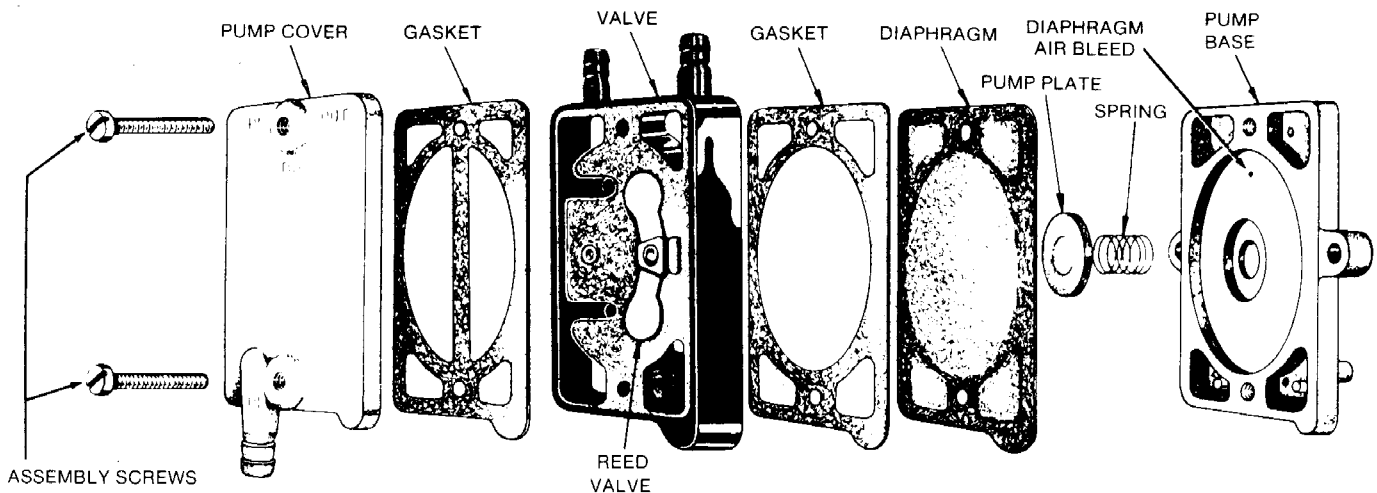

FIGURE 9. EXPLODED VIEW OF FUEL PUMP
3. Holding the pump carefully, remove the assembly screws (Figure 9).